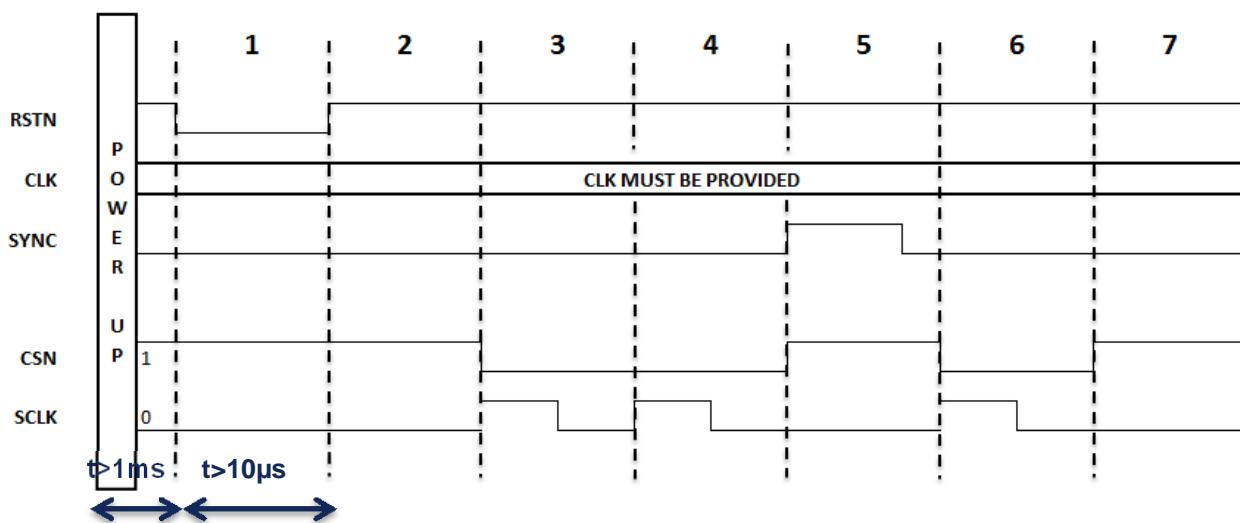

Figure 11: Start-up sequence when using the SPI interface
Figure 11 presents the reset and synchronization to realize after power-up when the SPI interface is used (see section Serial Peripheral Interface for more information on the SPI interface).
5. A pulse is applied onto the SYNCTRIG input to reset the internal clocks (SYNC signal in Figure 11). At this stage the bit 7 of register CHIP_CTRL must be at '0' (trigger mode disabled) – see section SYNCTRIG input;